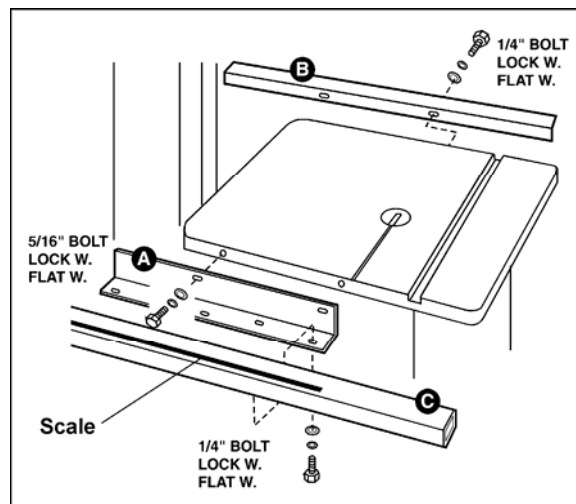

Figure 1
1. Mount the front rail (A, Figure 1) to the saw table with two 5/16 x 1-1/4 hex cap screws, two 5/16 lock washers, and two 5/16 flat washers. Screws should be placed horizontally in approximately the center of the slot. Hand tighten the screws.
2. Mount the rear rail (B, Figure 1) to the table with two 1/4 x 5/8 hex cap screws, two 1/4 lock washers, and two 1/4 flat washers. Hand tighten the screws.
5. Attach the guide rail (C, Figure 1) to the front rail with five 1/4 x 5/8 hex cap screws, five 1/4 lock washers, and five 1/4 flat washers. The scale on the guide rail should face toward the operator. Hand tighten the screws only.